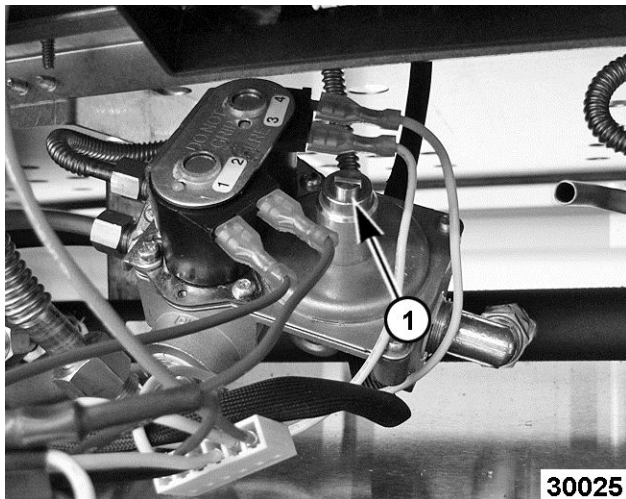

Fig. 26
9. To adjust, remove adjustment screw cap (1, Fig. 26) from the gas valve being checked.